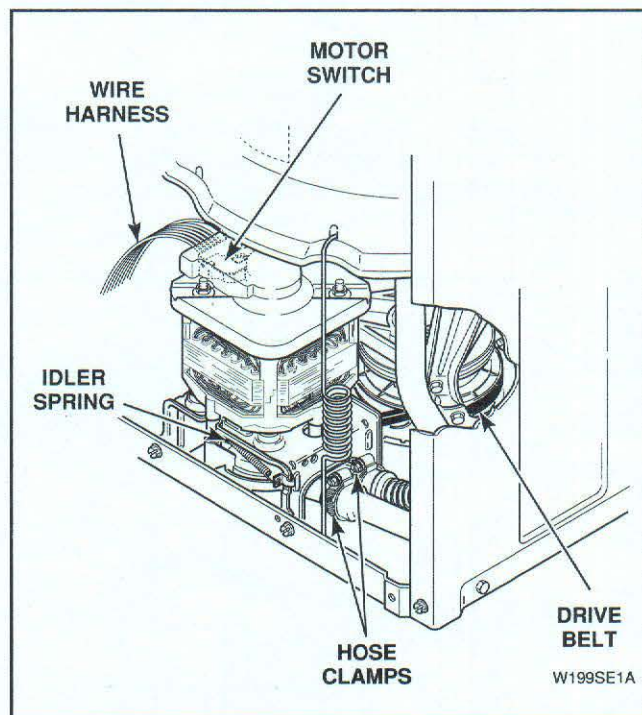

Figure 22
- Loosen hose clamps and remove hoses from pump assembly, *Figure 22*.
- Unhook idler spring from clip on front of motor mounting bracket, *Figure 22*.
- Reach in and around right side of motor and run belt off right side of large drive pulley, *Figure 22*.
- e. Reach in and around right side of motor and run belt off right side of large drive pulley, *Figure 22*.